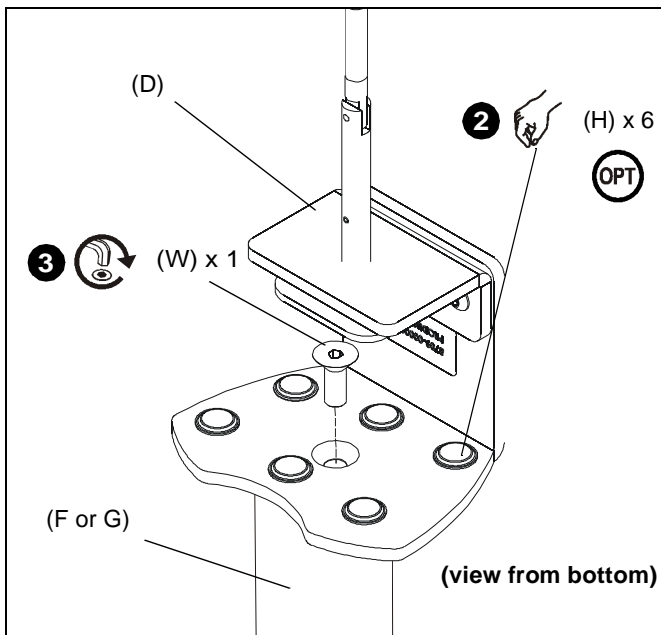

Figure 1
1. Remove adhesive from underside of bumpers (H).
2. Attach bumpers (H) to underside of desk clamp (D). (See Figure 1)
3. Use 7/32" hex key (J) to install 3/8-16 x 1" flat head cap screw (W) through the opening on top of desk clamp (D) and into bottom of mounting pole (F or G). (See Figure 1)